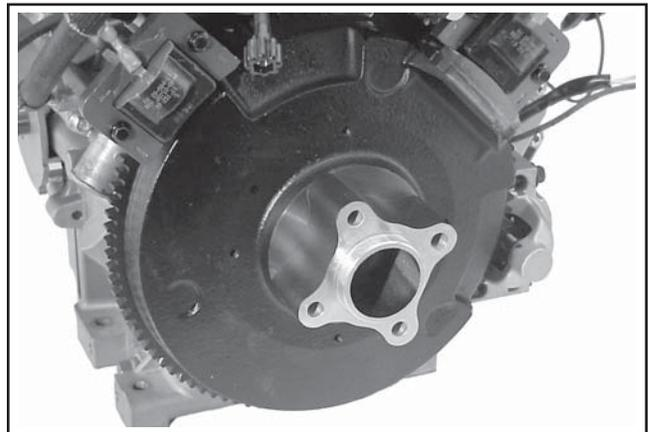

Figure 11-89. Lower Adapter on Flywheel.
2. Install the crankshaft pulley adapter onto the flywheel hub, so the offset for the pulley is out, and the holes are aligned. Make sure the adapter rests squarely on the face of the flywheel. See Figure 11-89.